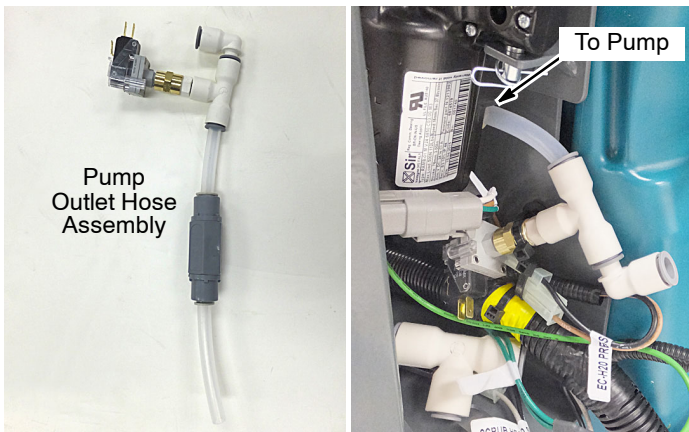

Fig. 31
15. At the scrub head location, route the Pump Outlet Hose Assembly to the pump (Figure 31). Fully insert hose into the pump outlet fitting. See Figure 35 for reference.